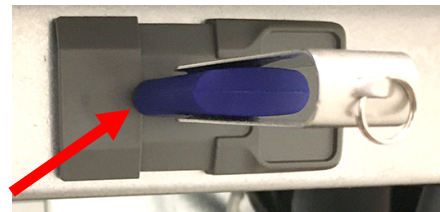

Figure 3
- Insert USB drive with BSP UPDATE files (KCCM software) into the KCCM extension port (see Figures 3 & 4).
- Insert USB drive with config.ini files into the KCCM extension port (see Figures 3 & 4). Wait about 2 minutes for files to load.